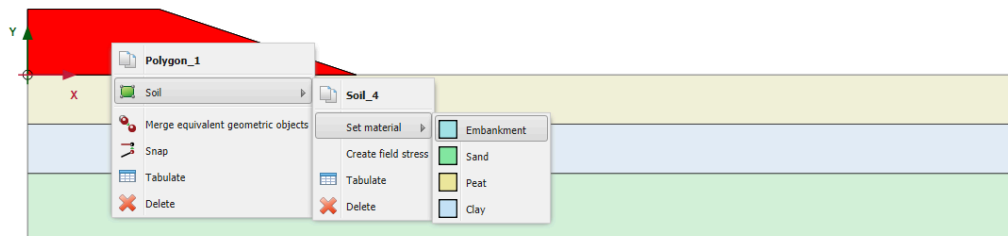

Figure 9-3: Assignment of a material dataset to a soil cluster in the drawing area
- 3 Select and right click the created polygon and assign the **Embankment** data set to the soil polygon as shown in Figure 9-3 \(p. 149\).